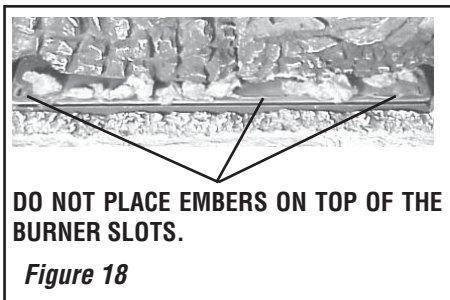

Figure 18
- b. Distribute the pieces over the top of the front burner ports. Avoid covering the slots and filling the area in front of the forward logs (see figure 18).